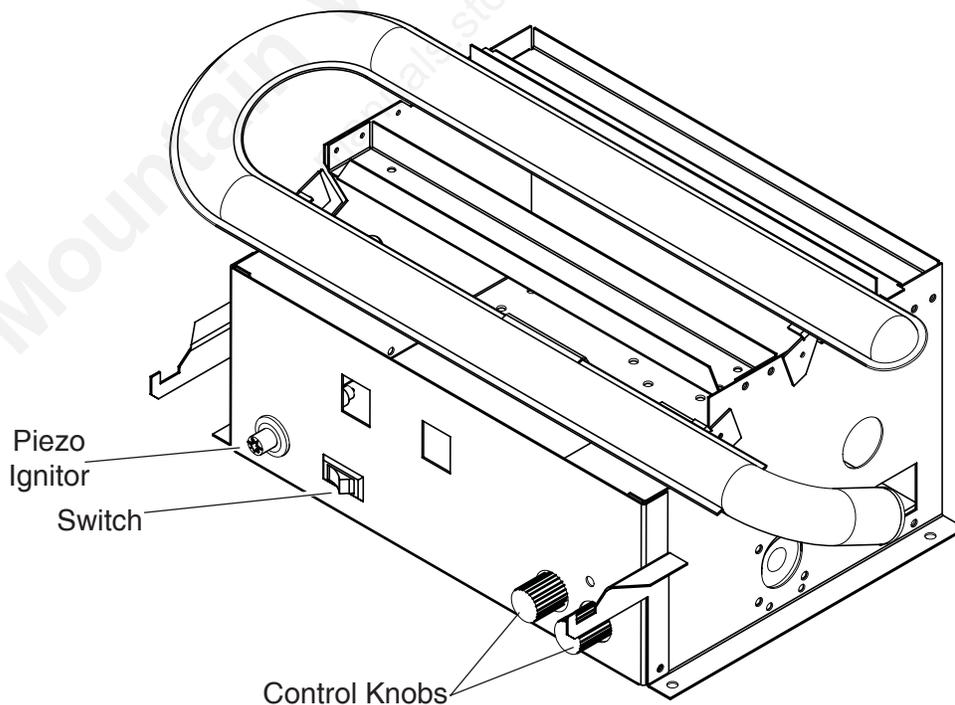

Figure 40 - Location of Piezo Ignitor, Control Knobs and Switch on Millivolt Unit
4. See *Figure 40, page 26* for the location of the piezo ignitor and control knob. Push in gas control knob slightly and turn control knob clockwise  to the OFF position.